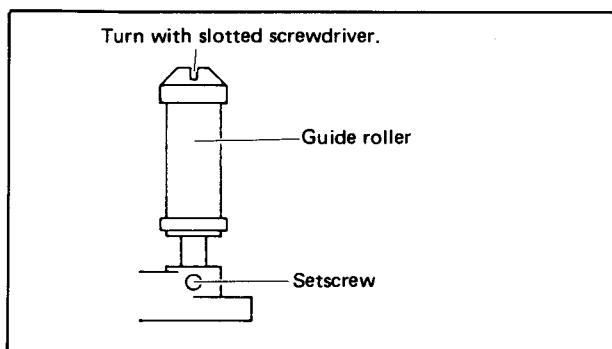

Fig. 4-41 Guide roller height
1. Slightly loosen setscrews of the supply and take-up guide rollers as shown in Fig. 4-41.